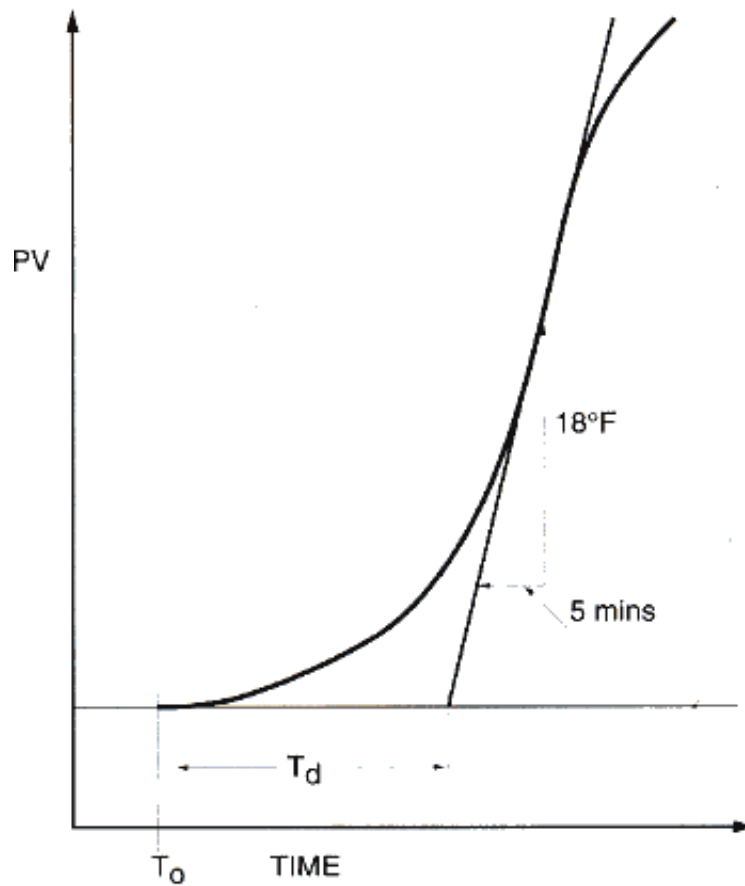

Figure 5
3. Draw a line from the point of maximum slope back to the ambient temperature axis to obtain the lumped system time delay T_d (see Figure 5). The time delay may also be obtained by the equation: $T_d = \text{time to max. slope} - (\text{PV at max. slope} - \text{Ambient}) / \text{max. slope}$
Example: The chart recording in Figure 5 was obtained by applying full power to an oven. The chart scales are 10°F/cm, and 5 min/cm. The controller range is -200 - 900°F, or a span of 1100°F. Maximum slope = 18°F/5 minutes = 3.6°F/minutes. Time delay = T_d = approximately 7 minutes.